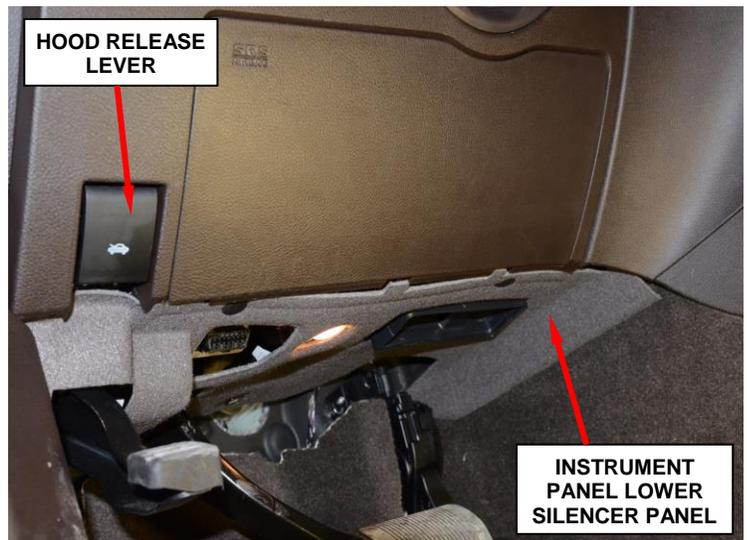

Figure 13 – Instrument Panel Lower Silencer
19. Remove and save the instrument panel lower silencer cover (Figure 13).
31. Install the instrument panel lower silencer cover (Figure 13).